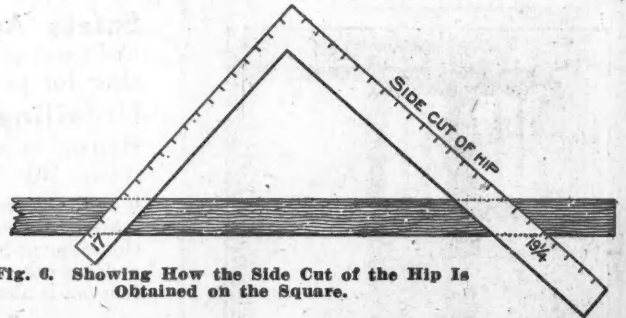
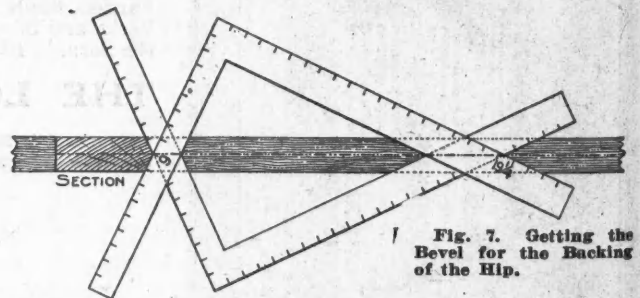

Fig. 6. Showing How the Side Cut of the Hip Is Obtained on the Square.
Fig. 7. Getting the Bevel for the Backing of the Hip.
shown in Fig. 6. Nine on the tongue and  $19\frac{1}{4}$  on the blade will give the bevel for the backing of the hip as shown in Fig. 7. Take the length of the common rafter (15) on the tongue and the rise (9) on the blade, the latter will give the miter or edge cut of the roof boards to fit in the valley, or over the hip. The blade